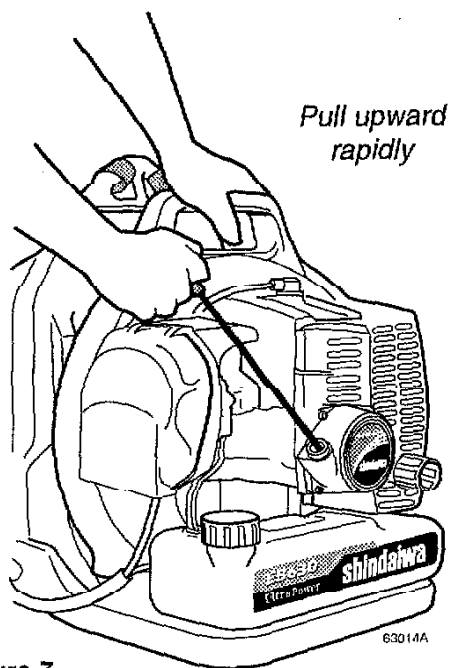

Figure 7
2. Using your right hand, pull the starter handle slowly until you feel the starter engage. see Figure 7 (next page).